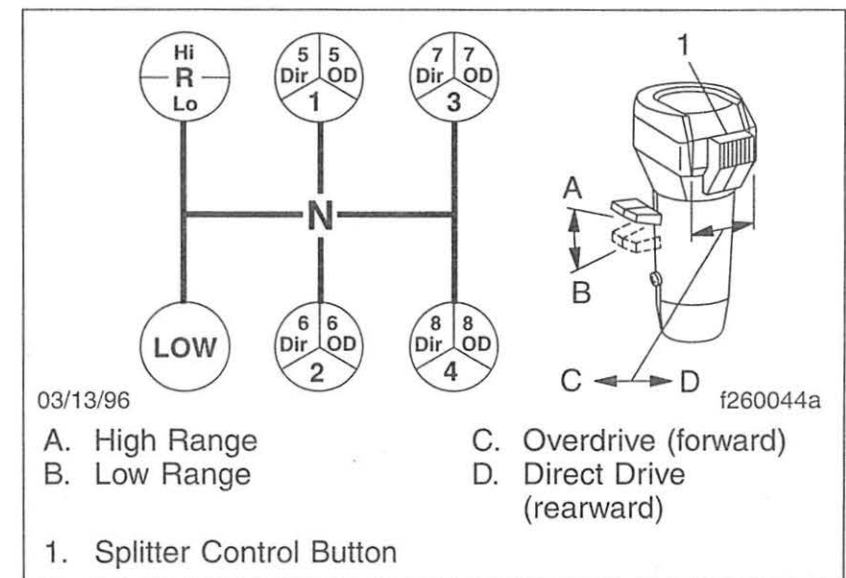
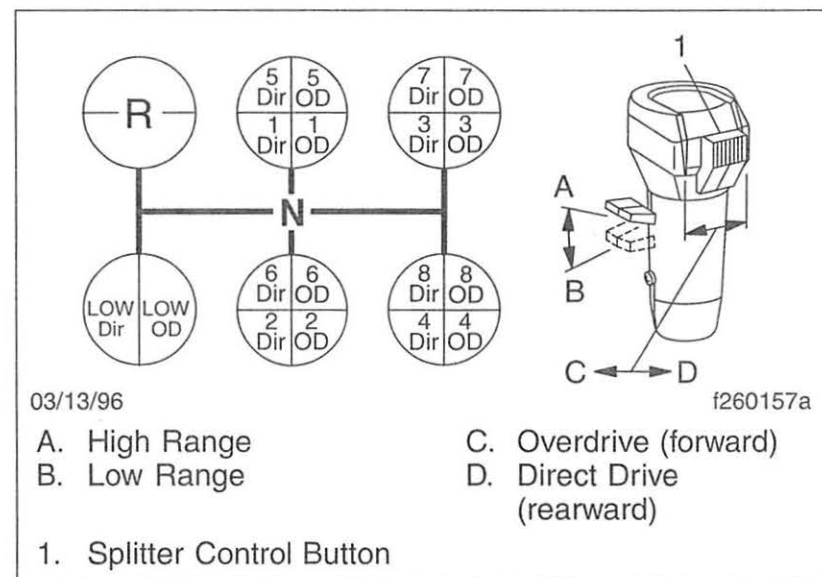

Fig. 8.4, Fuller 13-Speed RTO Transmissions Shift Pattern
Fig. 8.5, Fuller 18-Speed RTO Model Transmissions Shift Pattern
Fuller RTLO-12713A, RTLO-14713A, and RTLO-16713A transmissions have thirteen forward speeds and two reverse speeds. Each transmission consists of a 5-speed front section, and a 3-speed auxiliary section. The auxiliary section contains low- and high-range ratios, plus, an overdrive splitter gear. See **Fig. 8.4** for the shift pattern.
2. Position the range preselection lever down, into low range. See **Fig. 8.4** or **Fig. 8.5**.
3. Make sure the splitter control button is in the direct (rearward) position. See **Fig. 8.4** or **Fig. 8.5**.
To shift from low direct to low overdrive, move the splitter control button (**Fig. 8.5**) into the overdrive (forward) position, then immediately release the accelerator. Press and release the clutch pedal. After releasing the clutch, accelerate again.
Shift upward from low to 1st gear, 2nd, etc. until 4th gear, double-clutching between shifts, and accelerating to 80 percent of engine governed speed. See **Fig. 8.4**.
Shift upward from low overdrive to 1st direct by first moving the splitter control button into the direct (rearward) position (**Fig. 8.5**). Move the shift lever, double-clutching, to the 1st gear position.
To shift from 5th direct to 5th overdrive, move the splitter control button (**Fig. 8.4**) into the overdrive (forward) position, then immediately release the accelerator. Press and release the clutch pedal. After releasing the clutch, accelerate again.
To shift from 5th direct to 5th overdrive, move the splitter control button (**Fig. 8.5**) into the overdrive (forward) position, then immediately release the ac-